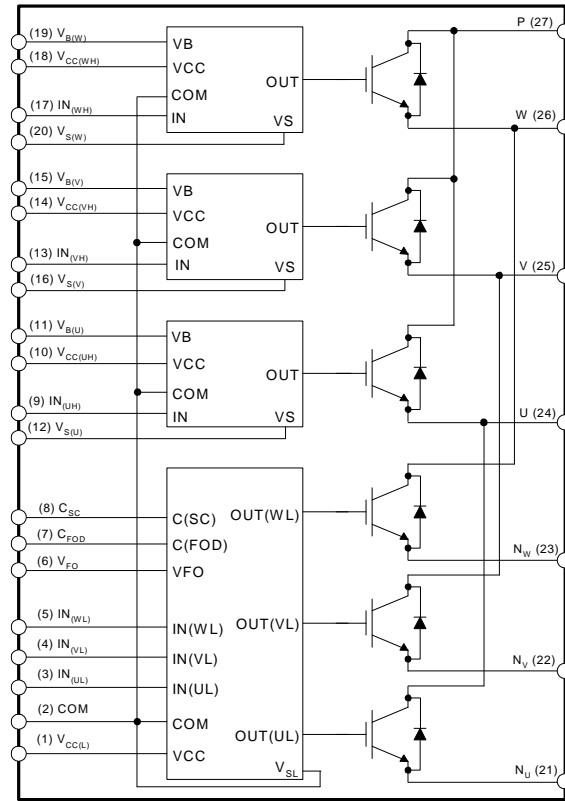

Figure 3. Internal Block Diagram
- 600 V - 3 A IGBT inverter for three-phase DC / AC power conversion (please refer to Figure 3)